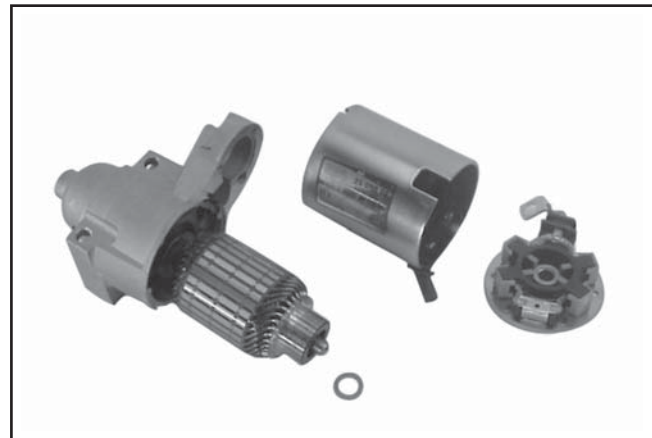

Figure 8-43. Starter Frame Removed.
6. Remove the frame from the armature and drive end cap. See Figure 8-43.